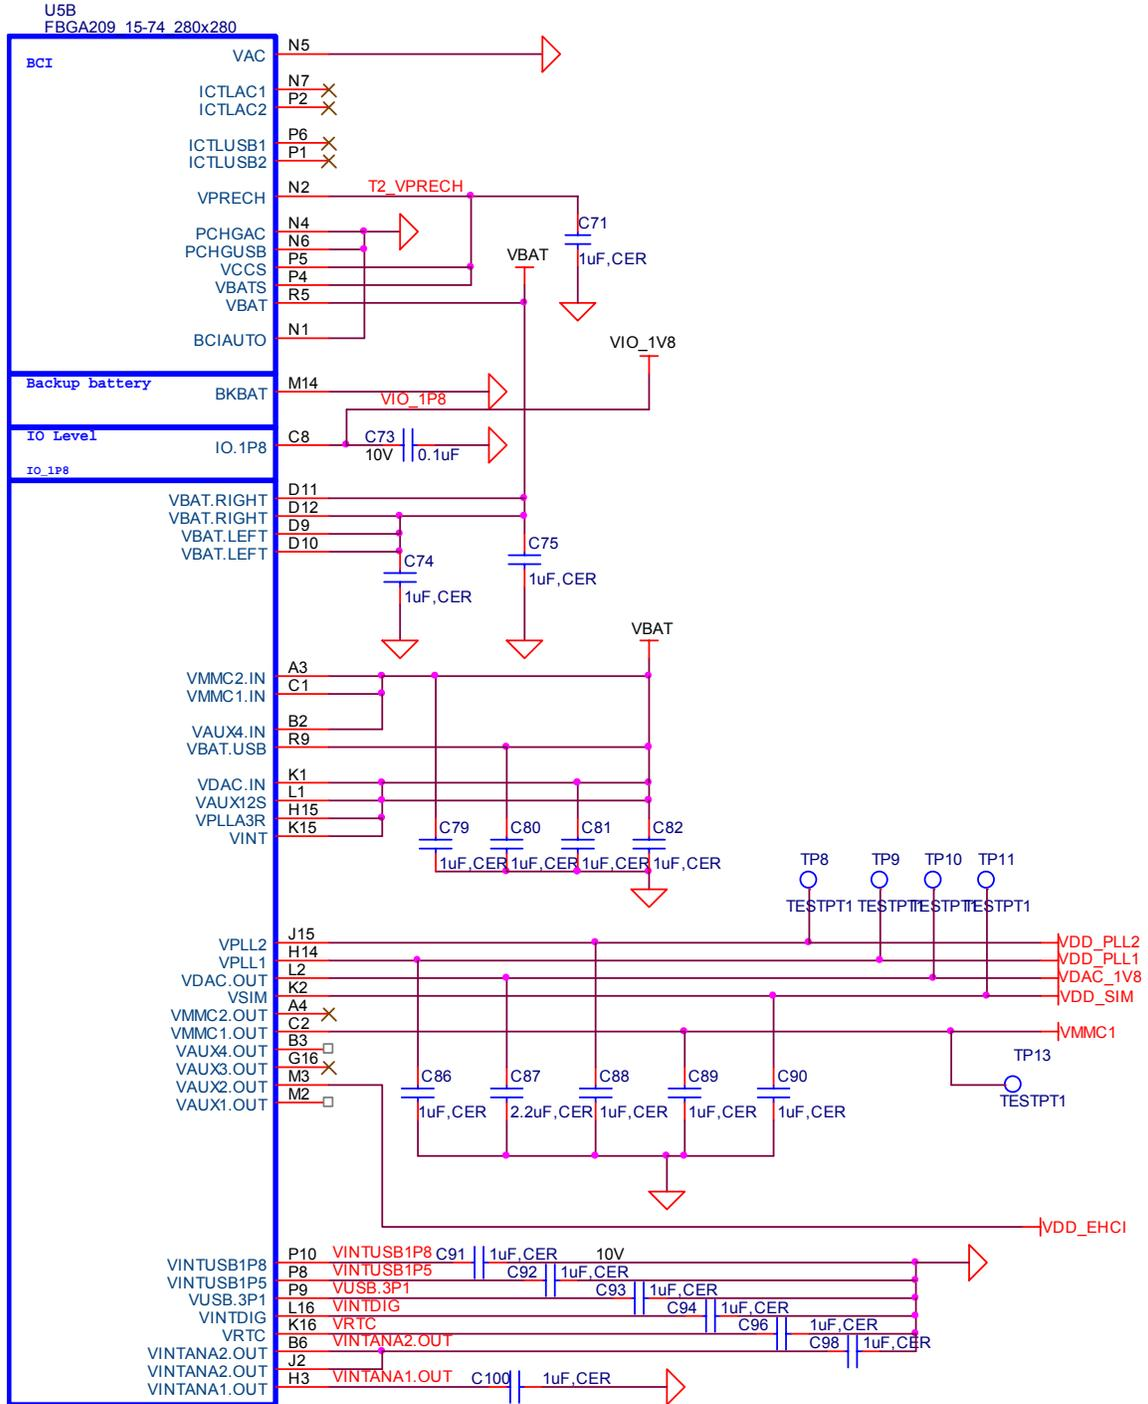

Figure 25. Peripheral Voltages
**Figure 25** shows the peripheral voltages supplied by the **TPS65950**.